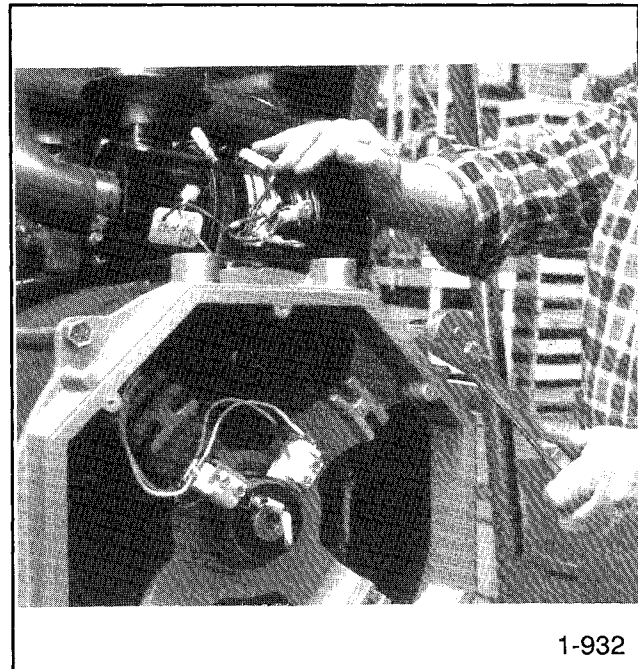

Figure 8-9. Removing the Over-Bolts.
17. Remove the four over-bolts securing the end bracket using a 17-mm ratchet. See Figure 8-9.